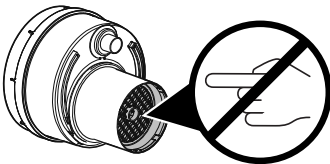

Figure 1 – To Prevent Filter Media Damage
- DO NOT make contact with the filter media (Figure 1). The media filters the air evacuated from fluid collection canister(s) of the rover before the air is vented. Failure to comply may cause media damage and result in patient and/or healthcare staff injury.